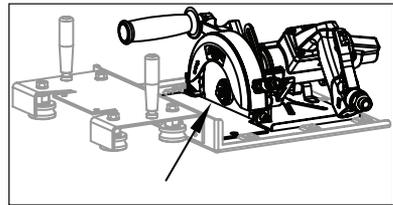

Figure 2
2. Place the Stone Cutter with the blade already mounted onto the Carriage Base. Align the Stone Cutter so the blade makes flush contact with Template-S. (See Figure 2)